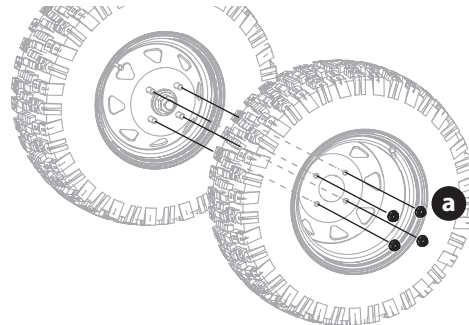

Fig. 54
1. Remove the four lug nuts (a) to remove one, or both, wheel(s) (Fig. 54).